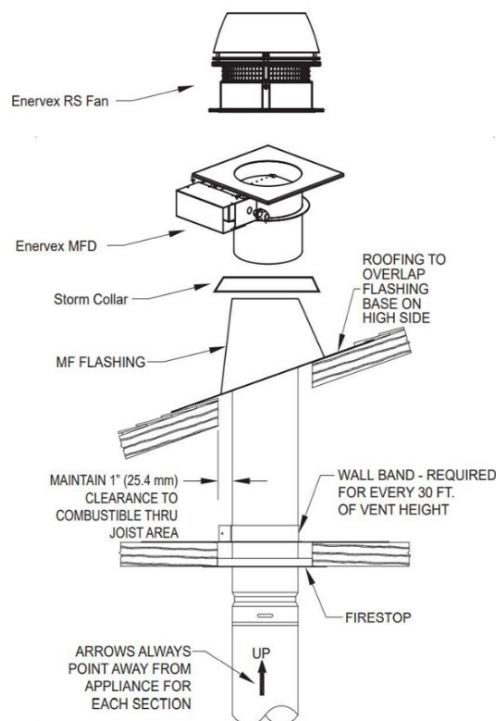

FIGURE 25
- 8) Where the B-Vent installation penetrates the roof, begin by cutting a hole that is 2 inches larger than the outside diameter (OD) of the B-vent pipe's outer casing. The B-Vent pipe is to be centered in this opening. Above the roof, a flashing is required to maintain the one inch (25.4 mm) clearance to the combustibles of the roof. Installation of a storm collar allows water to drain over the flashing (**Figure 25**).